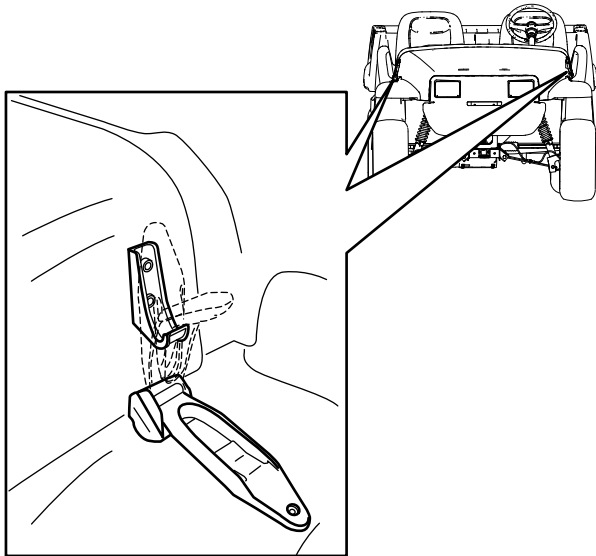

Figure 20
1. Lift up the handle of the rubber latches on each side of the hood (Figure 20).
2. Secure the hood by aligning the rubber latches onto the latch anchors on each side of the hood (Figure 20).